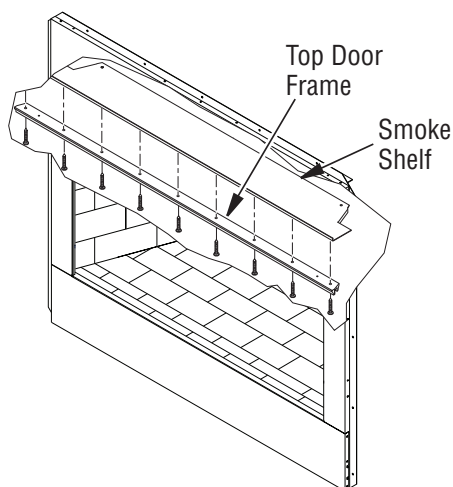

Figure 26 - Installing Top Door Frame
1. Remove screws from smoke shelf (see Figure 26).